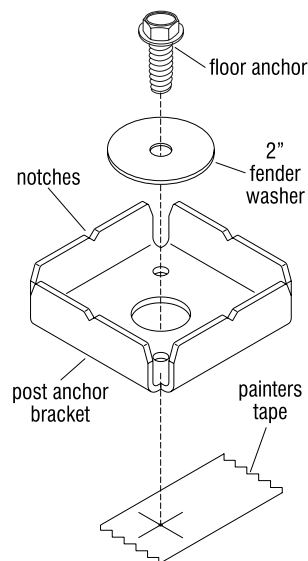

Figure 2
2. At seismic location installations, post anchor brackets must be installed to the floor, for use at the base of the posts. See pages 10 and 11 for specifications pertaining to installation site floor type. Bore the appropriate anchor hole into the floor, as specified for the site floor type, with the post anchor bracket directly on-center to the cross on the painter's tape as was laid out in step 1 above, for all post locations. Position the post anchor bracket square to the structure layout and install to the floor using the appropriate hardware. Notches in the post anchor bracket aid to align the bracket square with chalk lines snapped on the floor. Secure tight to the floor and assure that the bracket is square to the layout (Figure 2).